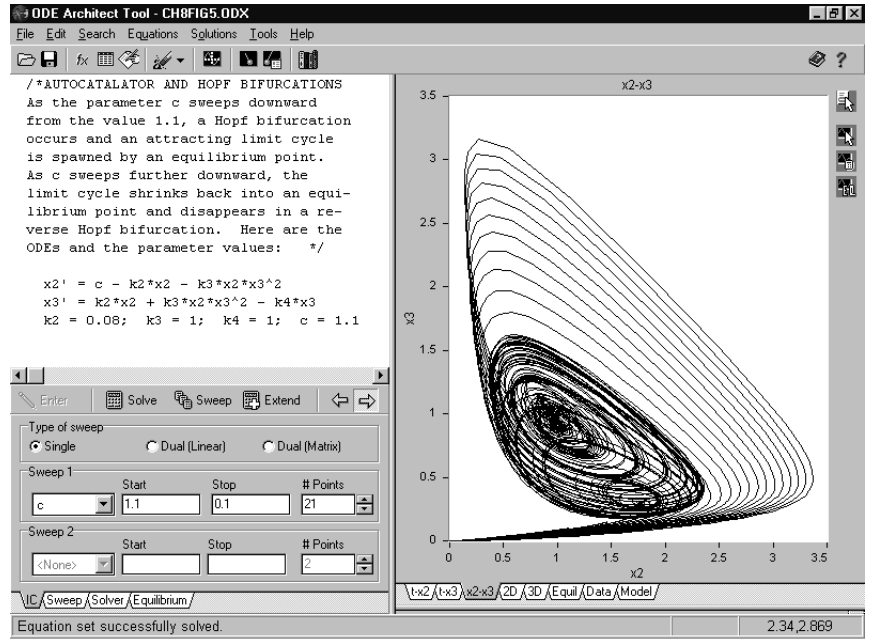

Figure 8.5: Twenty-one trajectories of system (8) for twenty-one values of c ; initial data is $x_2(0) = x_3(0) = 0$, time interval is 100 with 1000 points.
Figure 8.5 shows a sweep of twenty-one trajectories of system (8) with c sweeping down from 1.1 to 0.1 and the values of k_1 , k_2 , and k_3 as indicated in the figure. See also Problem 3, Exploration 8.4.
✓ (This is the first part of Problem 3 of Exploration 8.4.) Use ODE Architect to duplicate Figure 8.5. Animate (the right icon under Tools on the top menu bar) so that you can see how the trajectories change as c moves downward from 1.1. Then use the Explore feature to determine which values of c spawn or absorb a limit cycle. For what range of values of c does an attracting limit cycle exist?
3. Explore the behavior of $x_2(t)$ and $x_3(t)$ as governed by system (8). Start with $c = 1.1$, $k_2 = 0.08$, $k_3 = k_4 = 1$, and $x(0) = y(0) = 0$. Then sweep c from 1.1 down to 0.1 and describe what happens to orbits in the x_2x_3 -plane. Find the range of values of c between 1.1 and 0.1 for which attracting limit cycles are visible. These are Hopf cycles. Fix c at a value that you think is interesting and sweep one the parameters k_2 , k_3 , or k_4 . Describe what you observe. [*Suggestion:* Take a look at Figure 8.5, use the Animate feature of ODE Architect to scroll through the sweep trajectories. Then use the Explore option to get a data table with information about any of the trajectories you have selected.]